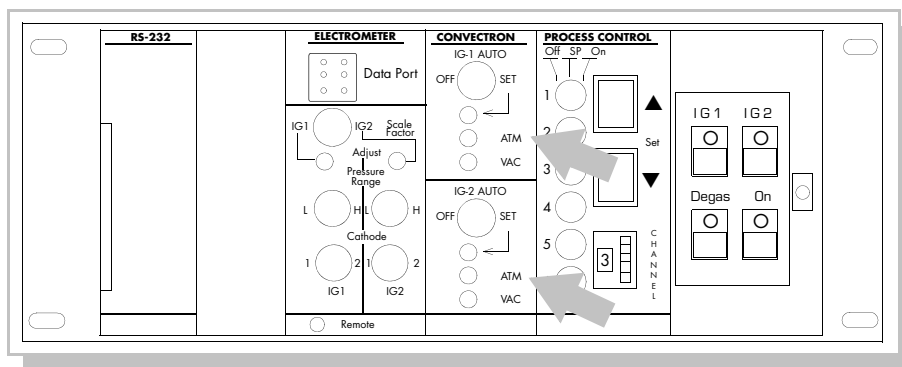

Figure 4-17 Control Unit Front Panel (with Door Open) Showing Convectron Gauge Zero and Atmospheric Adjustments.
2. With power on and at vacuum less than 1×10^{-4} Torr for at least 15 minutes, adjust VAC for gauge A (see Figure 4-17) until display A indicates 0.0 0 Torr/mbar or 0.0 0 Pa, not 1.0 -4, 1.0 -2, or 0.0 -0. A display of 0.0-0 indicates the gauge is set below 0.00.